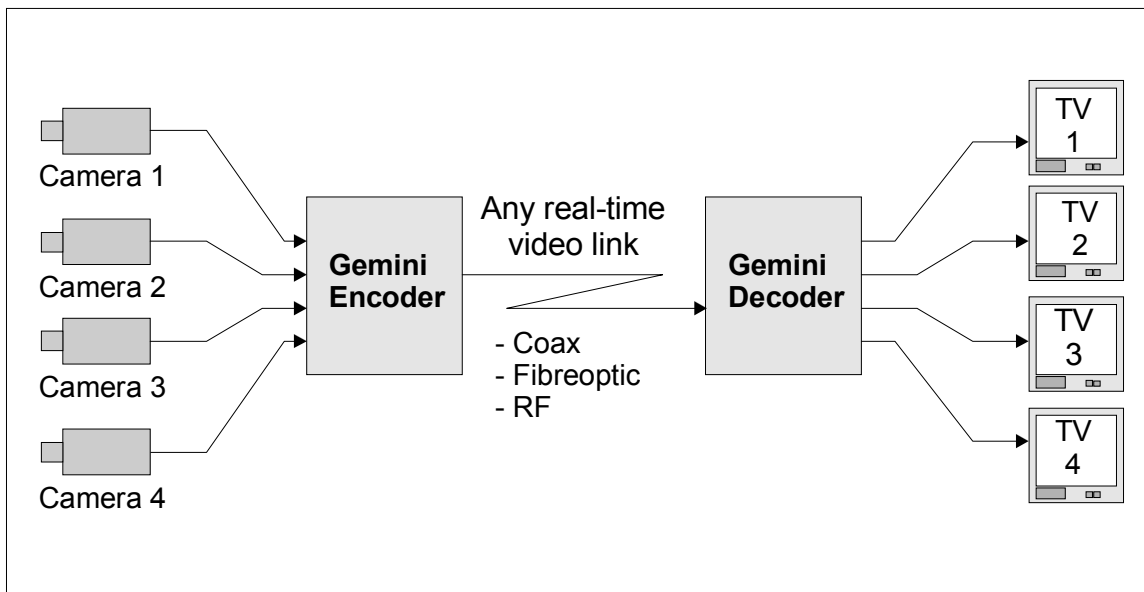

Figure 1: Gemini Application Diagram.
Gemini-4 allows extra cameras to be easily sent over an existing video surveillance link without the need of any modification. Gemini operates by multiplexing up to 4 video inputs together into one video stream suitable for transmission over a coax, fibre-optic or RF/microwave link. At the receive site, the Gemini decoder splits the multiplexed stream back into separate outputs ready to be viewed on individual monitors, or a combination of scaled pictures on one monitor, as required. See Figure 1: Gemini Application Diagram.
- 2.5 Connect the encoder’s video output to the real-time video link (see Figure 1).
- 2.6 Connect the output of the video link to the decoder’s input (see Figure 1).
- 2.7 Connect the number of video monitors required to the Gemini decoder’s outputs (see Figure 1).